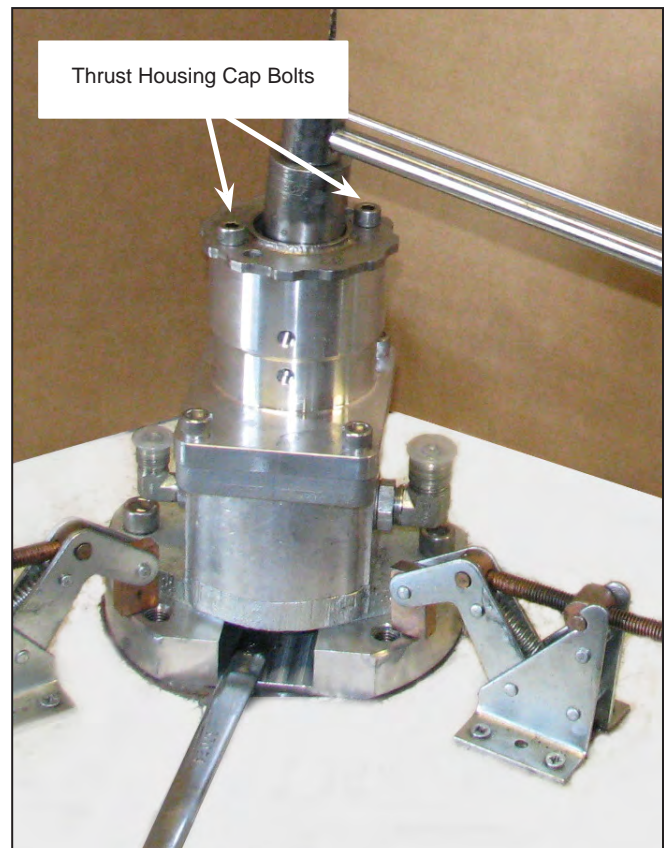

Figure 11: Spanner tool secured with thrust housing cap bolts.
**Then hold the thru-shaft firmly with 3/4" open end wrench so it doesn't move at all** and set the bearing preload by carefully loosening the spanner socket and seal nut one bolt hole. Then thread 2 - 3/8" thrust housing cap bolts through the holes in the spanner socket and into the threaded holes in the thrust housing to hold the spanner socket in that position. Figure 11.